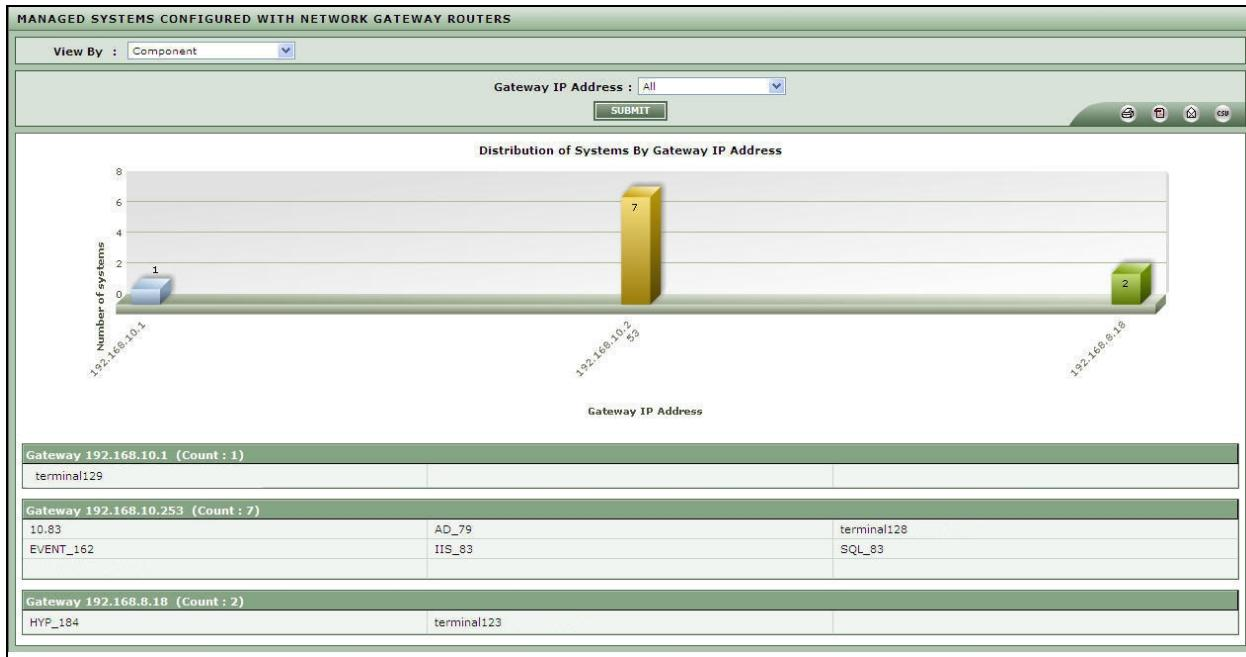

Figure 2.26: Distribution of systems across the gateway IP addresses
- Select **All** option a gateway from the **Gateway IP Address** list box as depicted in Figure 2.26. If multiple gateways have been configured in your environment, then, the **All** option will be chosen here by default. If only a single gateway is in use in your environment, then the same will be selected here by default.